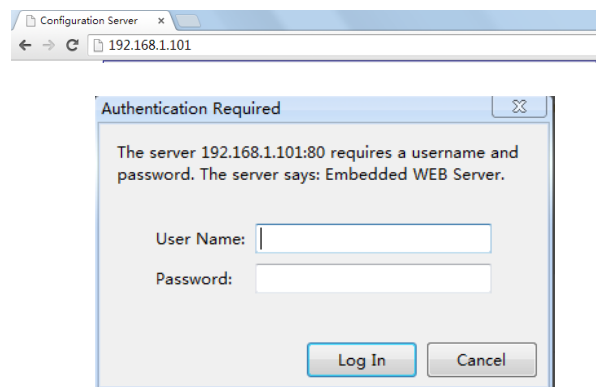

Figure 3.4 Setting and debugging login screen
3. Connect the server for setting directly to the air-conditioning adapter with a network cable, enter the IP address of the air-conditioning adapter in the server web browser address bar: 192.168.1.101, press carriage return, the browser displays the login screen as shown in Figure 3.4: